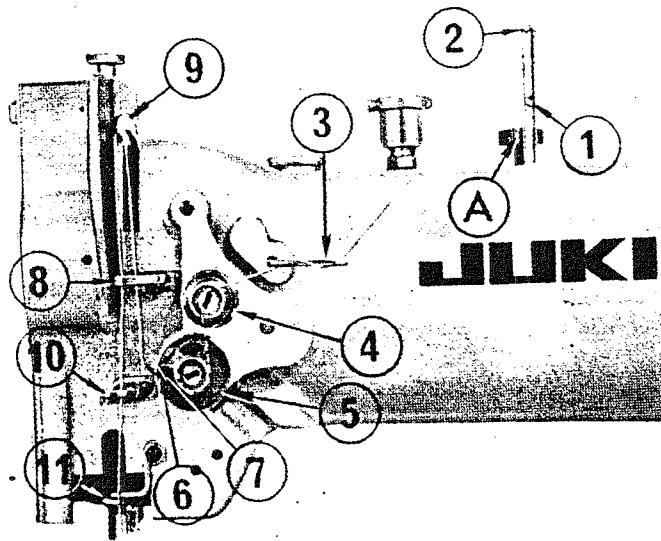

Fig. 10
**10. How to thread the machine (Fig. 10, 11)**
The pressure of the presser foot is adjusted by the presser foot adjusting screw (Fig. 10 ① ) atop the arm. To increase the pressure, turn this screw to right and to weaken the pressure, turn it to left.